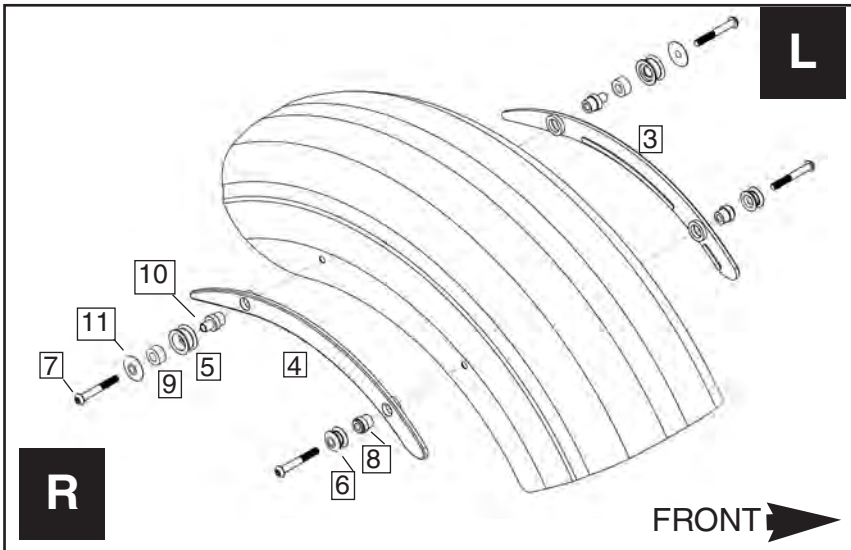

Figure 1
2. Assemble front and rear spool assemblies into the right eyebrow (4) and into the fender. Do not fully tighten. This will allow some movement which aids in the side plate installation. **(5mm Hex Wrench and Thread Lock) Figures 1 and 2**